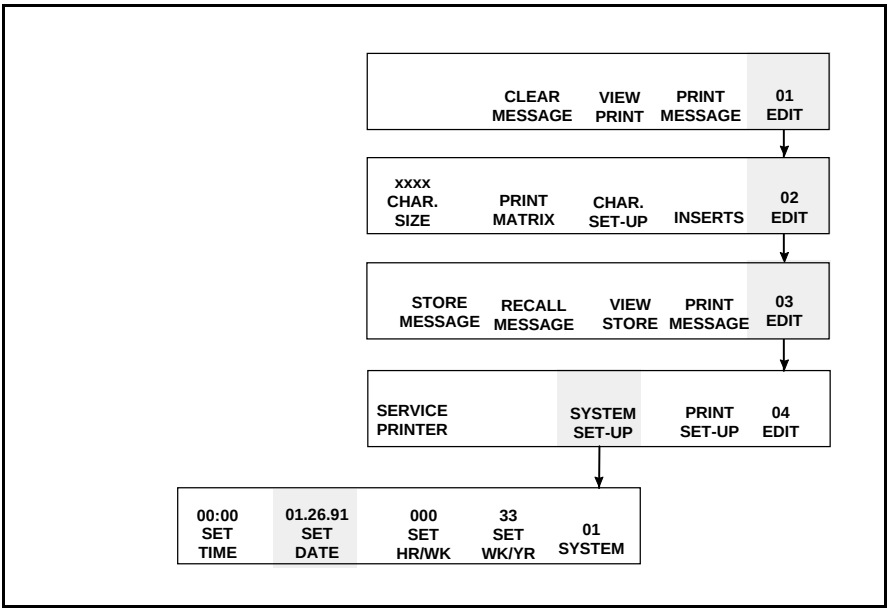

Figure 7-6. Accessing Frame <01 SYSTEM>
1. Begin in Frame <01 SYSTEM>. Refer to Figure 7-6.